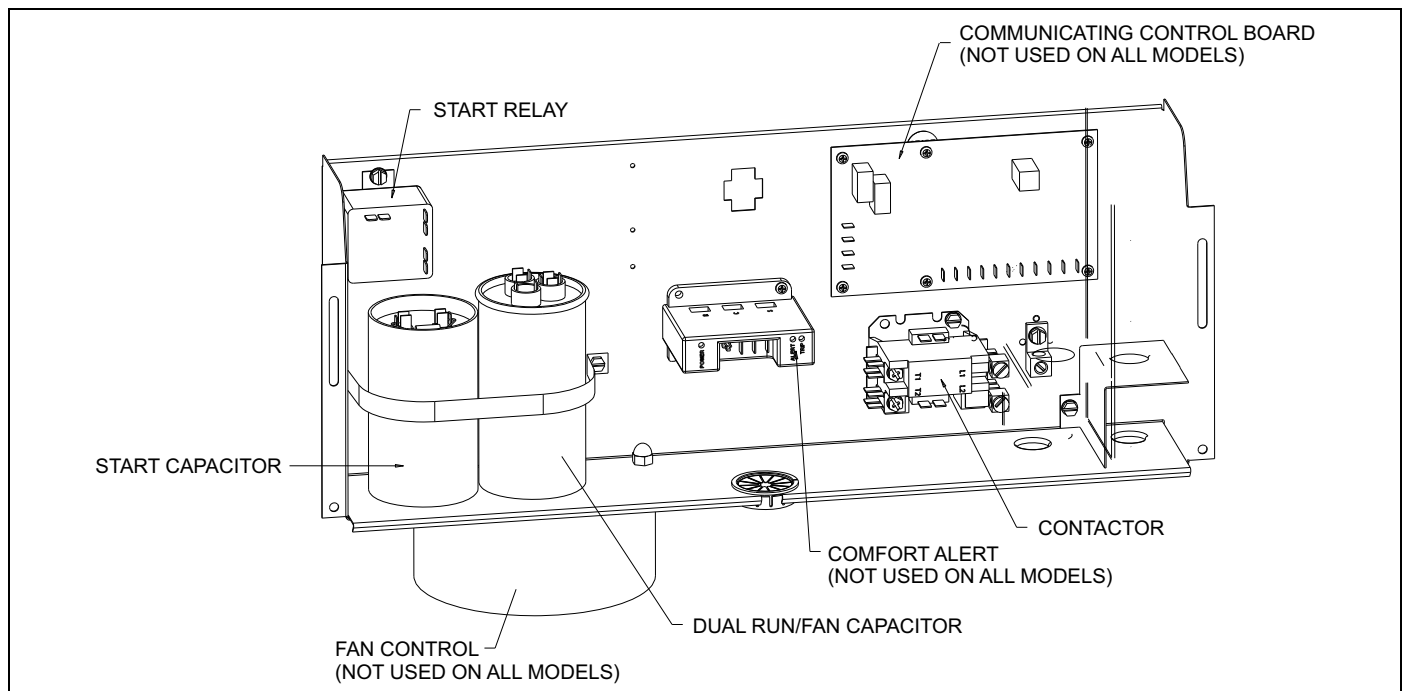

FIGURE 3
1. Use the two pilot holes on the left side to attach start relay. See Figure 3.